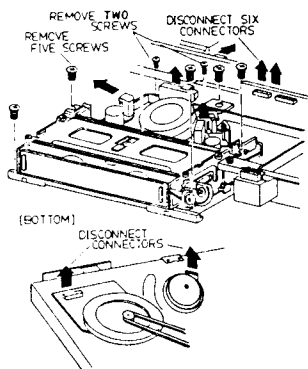

Fig. 28
3. Remove the mechanism chassis assembly. (See Fig. 28).